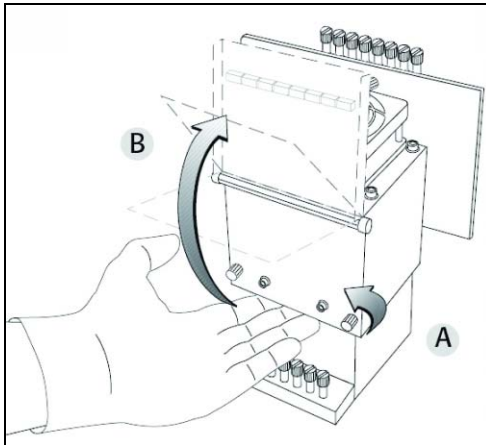

Figure 6-59: Opening the print-head compartment
- a. Open the print head compartment (see figure 6-59 on page 43).